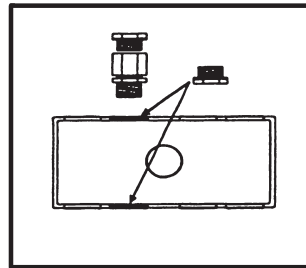

Fig. 1 : Cable Gland Positions
- 3 Make cable entry holes in the plastic or metal box by removing suitable knockouts (Refer to Fig. 1).